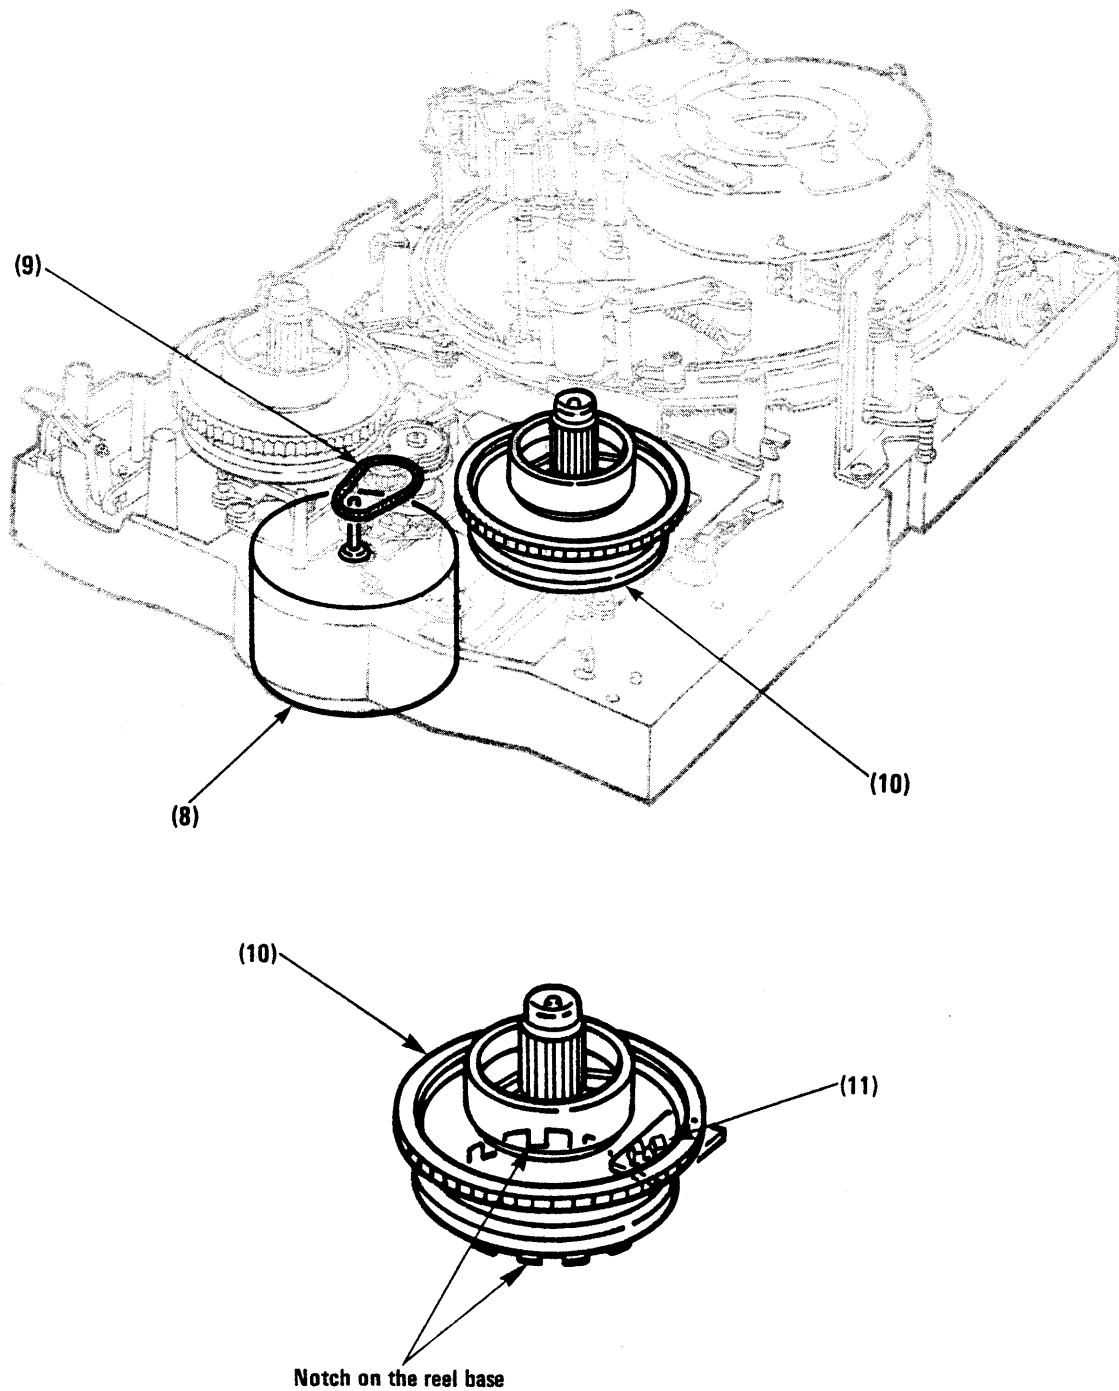

Fig. 3-2-3
(See Figs. 3-2-3 ~ 3-2-6.)
In order to prevent such damage, a detection system is provided to detect the rotation of the take-up reel base. While the take-up reel base (10) is rotating, a notch on the reel base is detected by a photo sensor (11) to provide a pulse signal. If the take-up reel base (10) stops rotating, the pulse signal will no longer be obtained, thus indicating that the reel base has stopped. (See Fig. 3-2-3.)